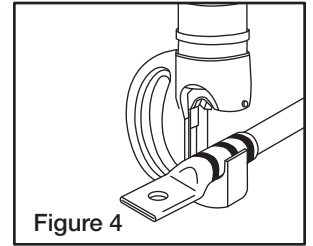

Figure 4
4. Fully insert conductor into connector (Figure 4).
4. Inserte completamente el conductor dentro del conector (Figure 4).